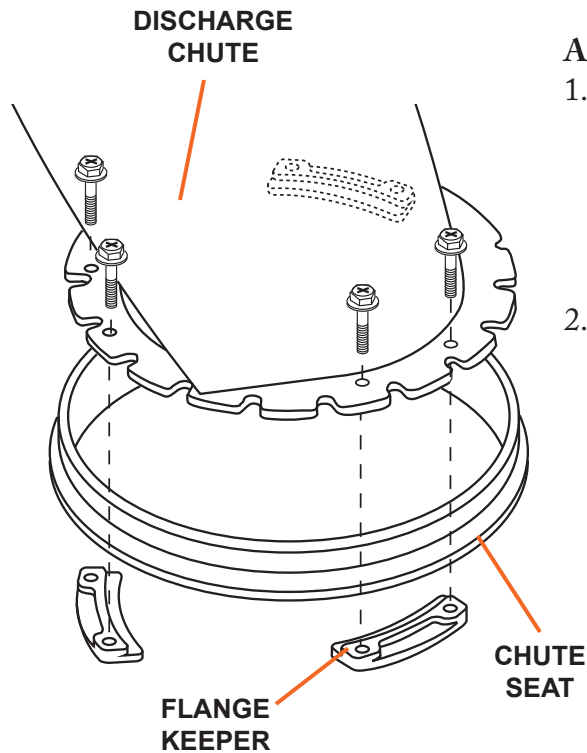

Figure 5
1. Attach the discharge chute to the snow thrower by placing it on the chute seat on the snow thrower. Position the flange keeper beneath the chute seat lip. Align the two holes in the chute and two holes in the flange keeper and secure with two bolts from the top side (see Figure 5). Repeat in three locations to attach the discharge chute to the snow thrower.